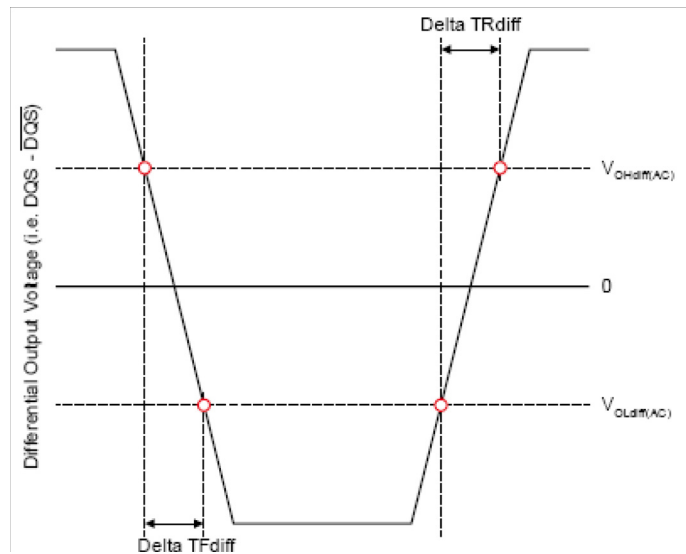

Figure 86 — Differential Output Slew Rate Definition
With the reference load for timing measurements, output slew rate for falling and rising edges is defined and measured between VOLdiff(AC) and VOHdiff(AC) for differential signals as shown in Table 35 and Figure 86.